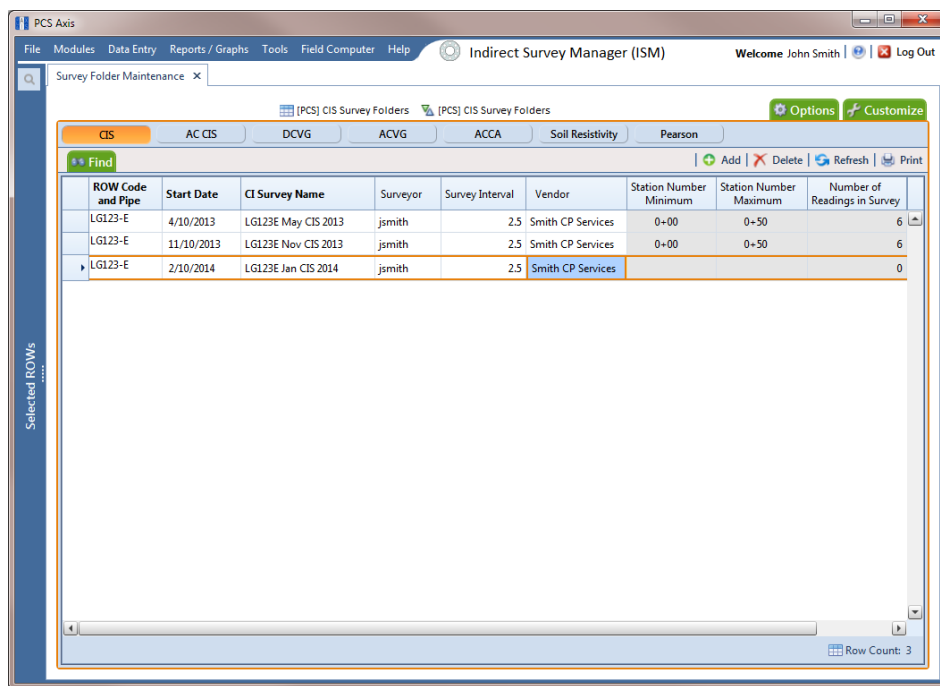

Figure 6-7. Survey Folder Maintenance
- 10 Click  **Save** to close the *Add Record* dialog box and add a row of records in the grid for the new continuous survey folder (Figure 6-7).
- 4 Click a button labeled with the type of continuous survey folder you want to delete. For example, click the **CIS** button  to delete the survey folder and associated survey readings for a close interval survey (Figure 6-7, page 200).